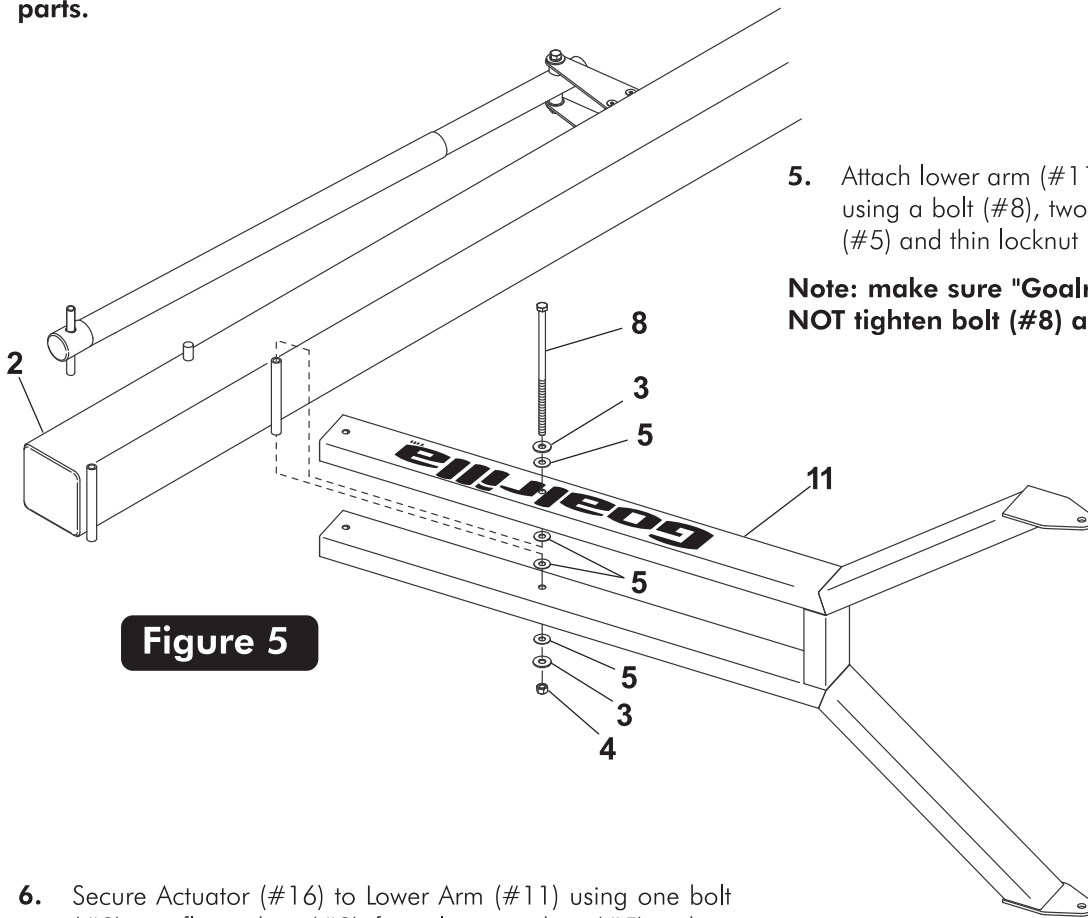

Figure 5
- Attach lower arm (#11) to Pole (#2), as shown in Figure 5, using a bolt (#8), two flatwashers (#3), four plastic washers (#5) and thin locknut (#4).